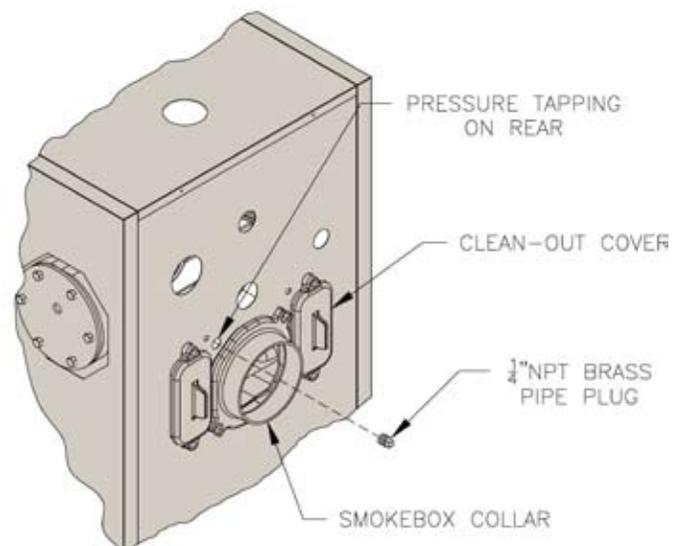

Figure 16: Smokebox Pressure Tapping for Checking Draft at Breech
2. Minimum Draft at Breech (Canopy) – The draft induced by a chimney must create at least a pressure of 0 (zero) inches water column (“ w.c.”) at the pressure tapping on the canopy mounted on rear of boiler (see Figure 16). The pressure at the canopy **cannot** be positive since this could create a condition that allows flue gas by-products to escape from the draft regulator. A negative pressure reading up to -.03 inches water column is acceptable for proper operation. (See Table 8, Burner Specifications at the rear of this manual for more details)
4. Mount the Vacuum Relief Valve Tee Assembly (P/N 8116268 included with Kit) or 90° elbow into the burner inlet ring. See Figure 16.
- a. Secure with at least three (3) sheet metal screws evenly spaced around the burner inlet ring.